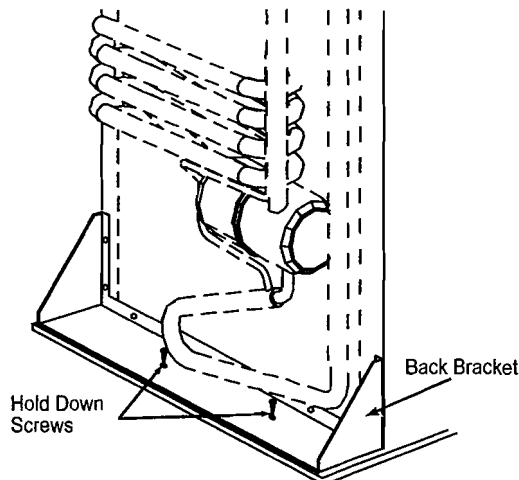

Figure 3. Back bracket hold down screws.
6. Remove the back bracket hold down screws. Screws' location shown in Figure 3.